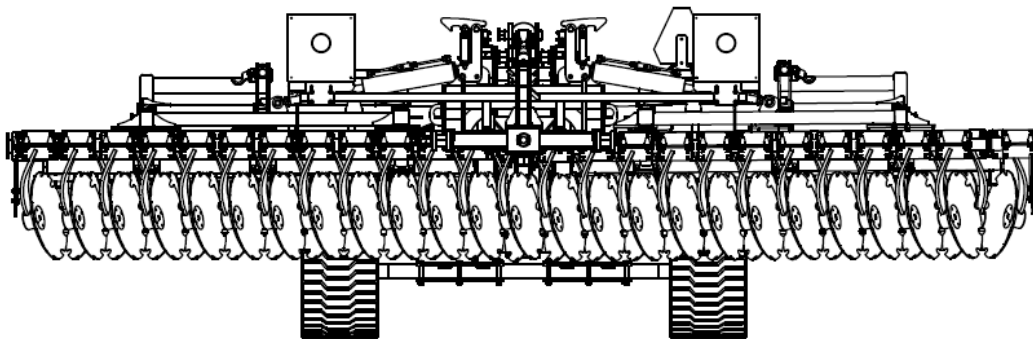

Fig. 23 View of the implement at the completion of the side extension opening sequence. The implement arms are fully open.
5. To complete the opening sequence of the implement side extensions, wait until the hydraulic mechanism opens the arms to their end position. Do not interrupt the opening process of the arm side extensions without ensuring that they are fully open (Fig. 23).